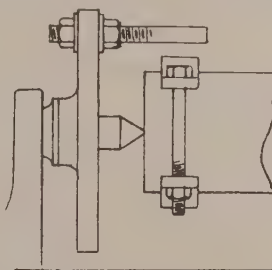

FIG. 6.
small for a job of this size, in which case one must be improvised by using the face-plate. This can readily be done by inserting an ordinary bolt through one of the slots, or holes, in the face-plate, and fixing it up in place with nuts and washers, as in Fig. 6. The head of the bolt should be previously cut off with a hack saw, so that the body of the bolt may engage directly against the strap.
The two pieces forming the bed must next be prepared and bolted on as shown in Fig. 5. They should be 4 ft. 6 ins. long, 6 ins. by 2 ins., and fixed at each end with two bolts. The top of the lathe is now as Fig. 5, and the long standard at the left will be seen to be for one part of the headstock. The remaining part of this can be made next. The top of this must be an exact facsimile of the top of standard, and it must have a long tenon to fit closely in the slot of bed, and project $4\frac{1}{2}$ ins. below it. In this projecting part a bevel mortice must be made, as shown at G Fig. 6, and in this mortice a taper wedge is fitted, so that when the tenon is between the two sides of bed, the wedge is driven in underneath, and clamps it tightly in its place. The arrangement is shown clearly in section in Fig. 7.
Now obtain a piece of steel spindle, 9 ins. long by 1 in. diameter; file one end as square across as you can, and mark with a centre punch; then, with a twist drill, bore a small hole in endways to the depth of $\frac{1}{4}$ in., afterwards enlarging this with a countersink, so that the conical point of screw will fit nicely in it. Two pieces of mandrel-drawn brass tube, 1 in. long, are now wanted, the right size for the spindle to fit closely in them, as they are to form bearings for the mandrel. These tubes are inserted one at each side of the movable part of headstock (Fig. 6), which is easily done by boring a hole of the right size for the tubes to drive tightly in, afterwards continuing the hole with a smaller bit. The tubes are shown in position at H, (Fig. 9) (in section), and also in Fig. 10 (elevation). A hole for lubricating purposes must be bored from the top downwards through the tubes, as at I, being kept clear of dust, &c., by means of small round head screws, as shown.
The next part to make is the movable poppet. This is an exact *facsimile* of Fig. 6, so far as the wood is concerned; but instead of the bearings being fitted, this must have a hole bored through in the same way as the long standard, and a screw fitted to work in it in the same way, the point being filed up to a true cone. A portion of the poppet with this screw in position is shown in section in Fig. 12.
DESCRIPTION OF FIGURES.— (1) Right-hand standard of lathe complete. (2) Sill of ditto showing mortises for standard and braces. (3) Braces showing tenons to fit in above mortises. (4) Standard tenoned to fit in sill and morticed to receive brace. (5) Top part of lathe showing connection of bed with standard. (6) Movable part of heelstock, also pupet head. (7) Section showing method of fixing Fig. 6 to bed. (8) Screw forming centre for mandrel spindle, also tail centre of lathe and centres for crankshaft. (9) Section of part of heelstock, showing bearings for mandrel spindle. (10) Front elevation of Fig. 9. (11) End elevation of mandrel pulley, showing method of fixing to spindle. (12) Section of pupet head, showing screw centre. (13) Section of end of crankshaft, showing conical bearing. (14) Section of crankshaft, with flywheel mounted. (15) Elevation of flywheel. (16) Plan of treadle complete. (17) Section of mandrel, with pulley turned to shape. (18) Right-hand end of pulley, showing brass bearing. (19) End of mandrel spindle, showing spur centre.